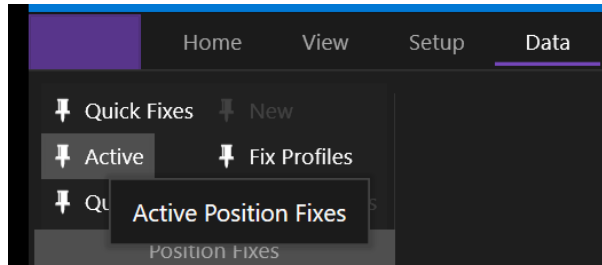
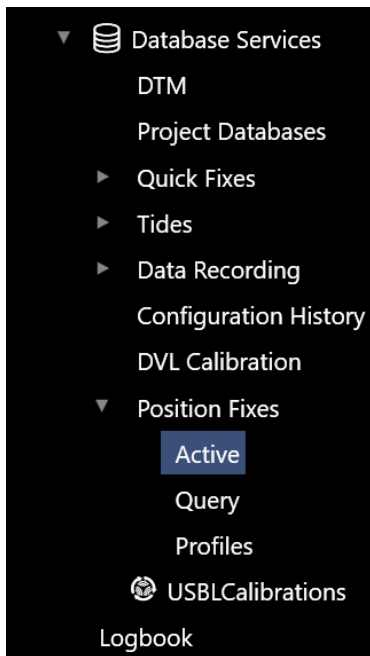
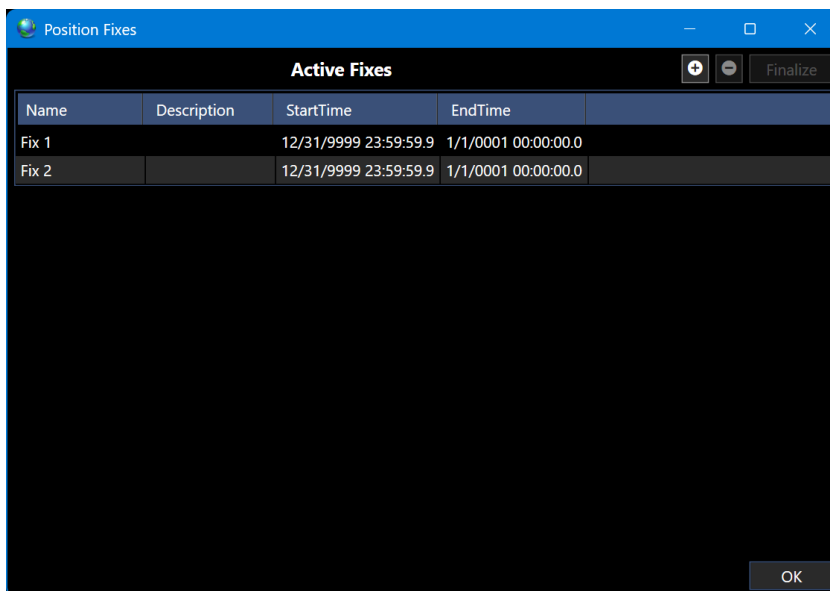

FIGURE 14-112 DATA RIBBON - ACTIVE FIXES
FIGURE 14-113 EXPLORER VIEW - ACTIVE FIXES
FIGURE 14-114 ACTIVE FIXES VIEW
4. Access the Active Fixes view (see Figure 14-112, Figure 14-113, Figure 14-114). Select the position fix in the data grid to be edited (see Figure 14-115).